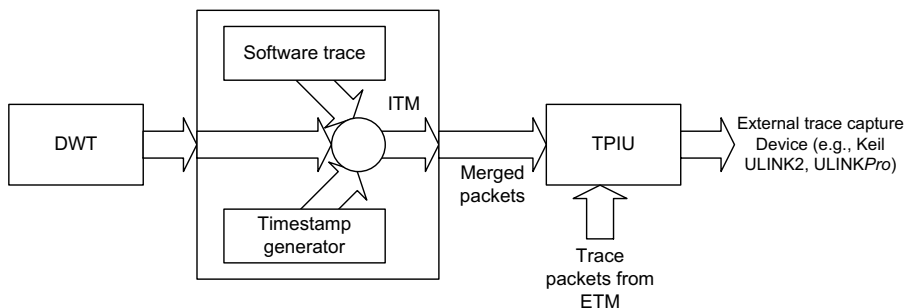

FIGURE 14.15
- The ITM works as a trace packet merging device inside the processor to merge trace packets from DWT, stimulus port, and the timestamp packet generator (Figure 14.15). There is also a small FIFO in the ITM to help reducing trace packet overflow.